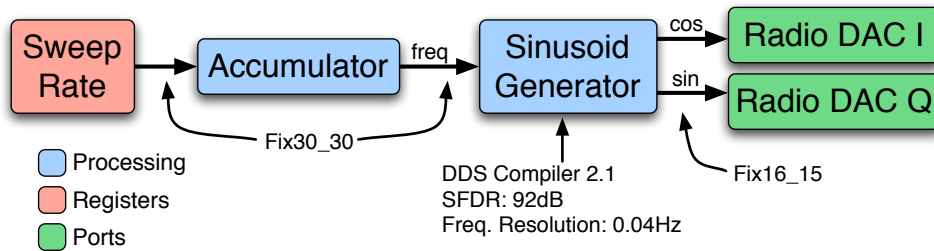
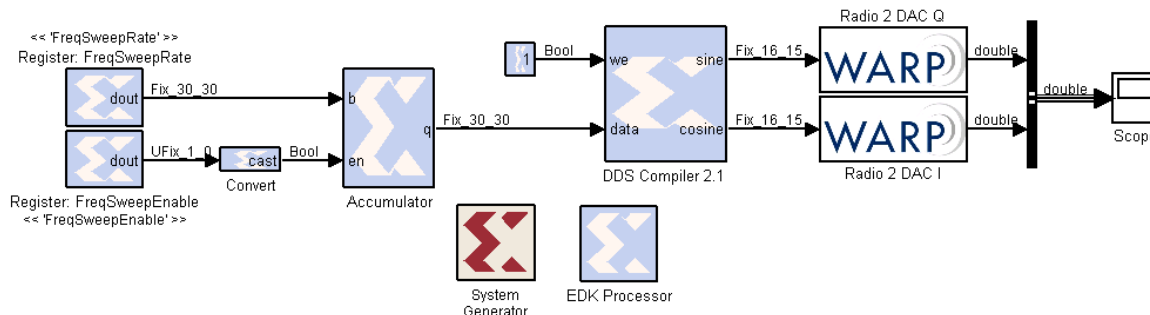

Figure 1: Block diagram of sweeping sinusoid transmitter
Figure 2: System Generator design of sweeping sinusoid transmitter
The first step is to build the sweeping sinusoid generator model in System Generator. This model will implement a simple transmitter which generates a complex sinusoid whose frequency is constantly sweeping. The block diagram in Figure 1 shows the basic design for your transmitter.
3. This model contains just the registers and DAC output ports for your design. Build the sweeping sinusoid transmitter using blocks from the Xilinx blockset. Figure 1 provides some suggested datatypes and blocks. A complete model is shown in Figure 2. A copy of the complete model is also saved in .\Lab3_TxRx\sysgen_solution\.